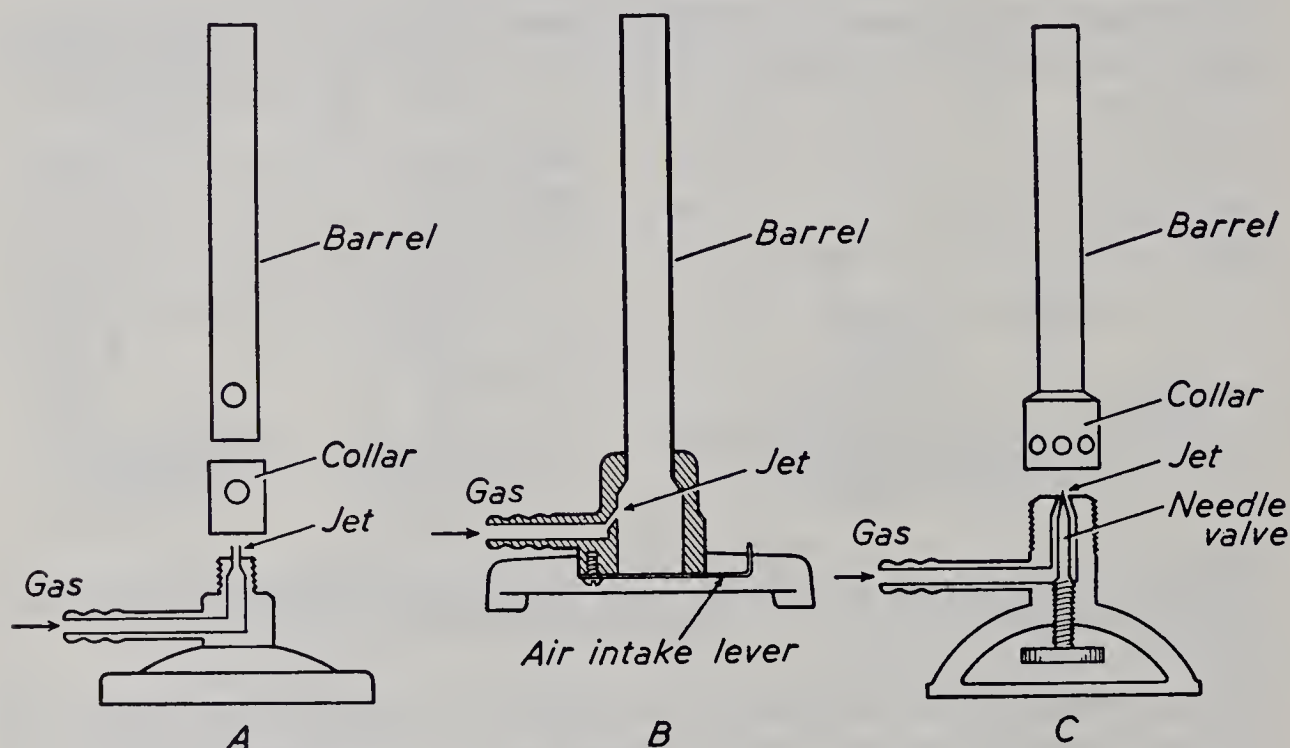

Fig. 10. Various types of Bunsen burners.
Model (A) in Fig. 10 represents one of the commonest types. The barrel may be unscrewed from the base, thus revealing the small opening in the jet through which the gas enters the mixing chamber. The collar is a perforated ring which fits over the base of the barrel in such a manner that the openings in the barrel may be kept open or closed by rotating the collar. The burner is connected to a gas outlet by means of thick-walled, tightly-fitted rubber tubing.